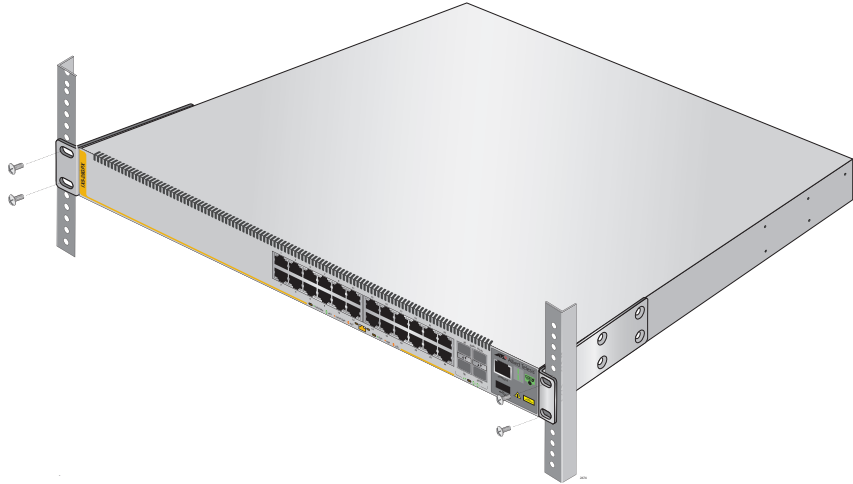
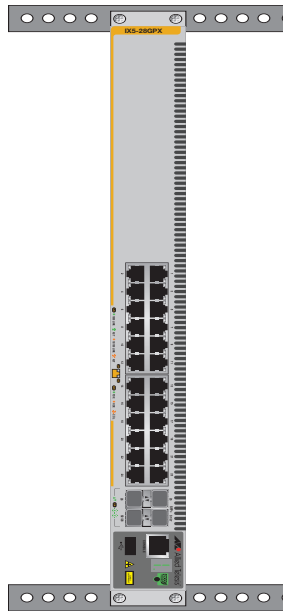

Figure 26. Mounting the Switch Horizontally in an Equipment Rack
Figure 27. Mounting the Switch Vertically in an Equipment Rack
5. While another person holds the switch in the equipment rack, secure it using standard equipment rack screws (not provided), as shown in Figure 26 for horizontal mounting and Figure 27 for vertical mounting.